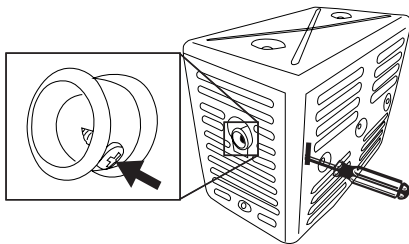

Figure 14: Remove Screw Holding Spark Arrestor
3. Slide in screwdriver into side slot and remove screw holding on spark arrestor. Pull out spark arrestor (see Figure 14).